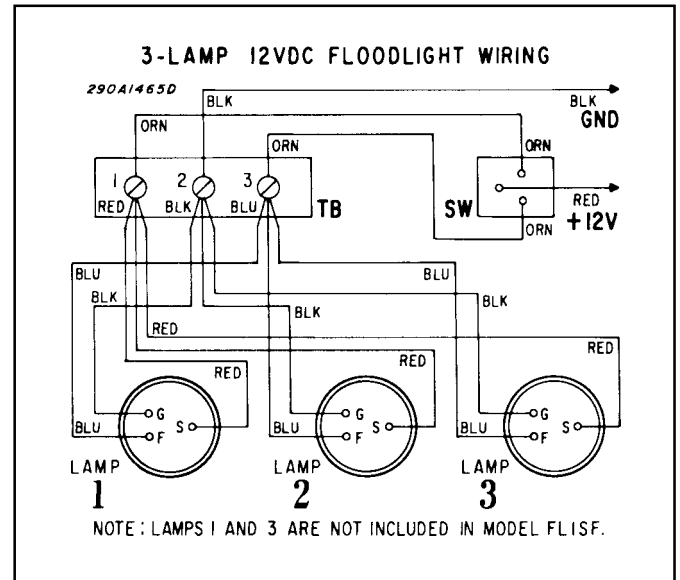

Figure 2.
10. Connect the power leads to the power source as shown in figure 2.